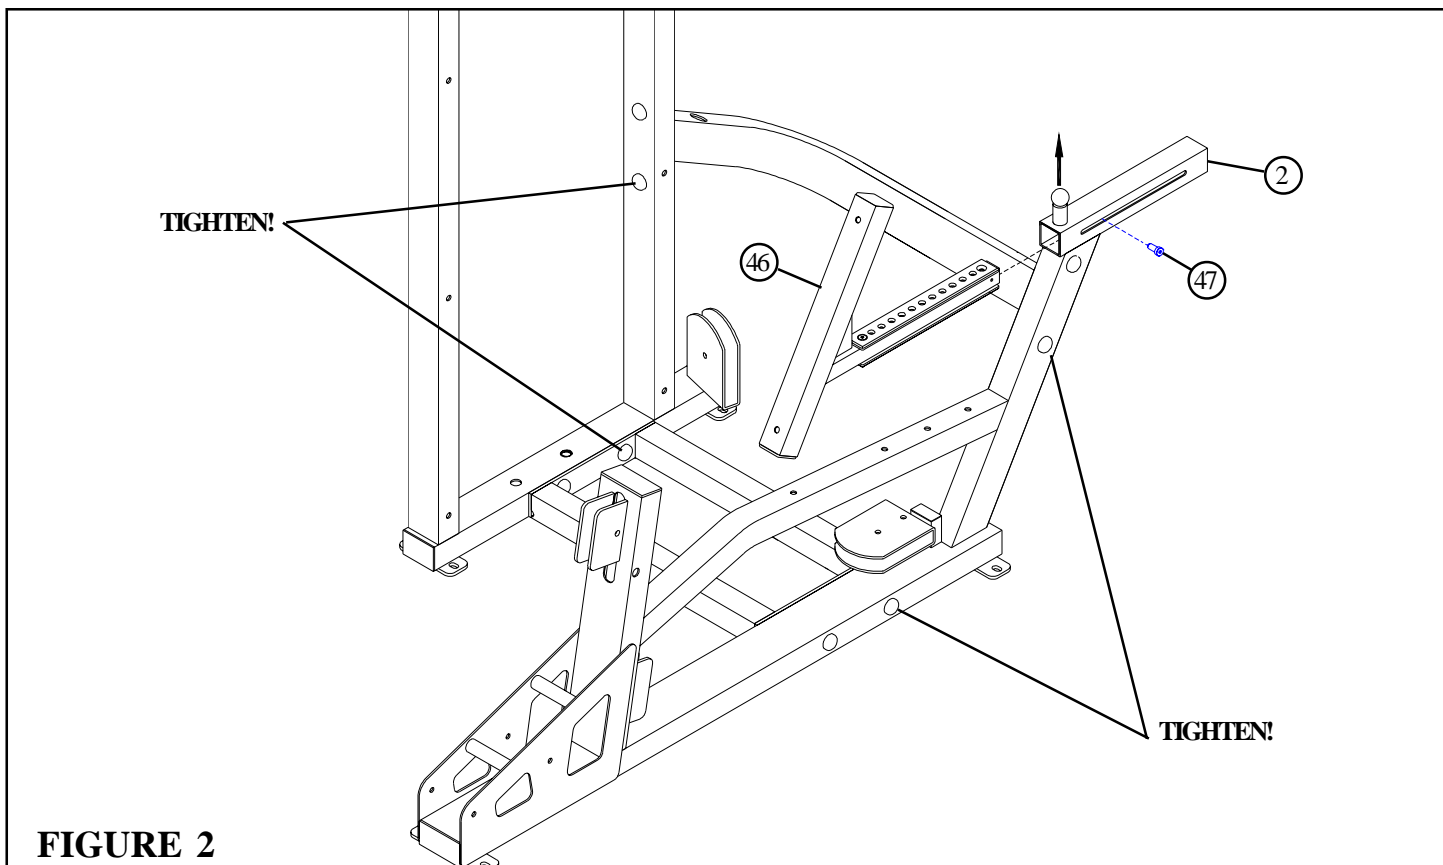

FIGURE 2
- Pull up the SPRING PIN on the LEG PRESS FRAME (2) and insert the BACK PAD ADJUST (46). Assemble one 5/16 X 1/2" SHOULDER BOLT (47) to the BACK PAD ADJUST (46) as shown in FIGURE 2.
- **Securely tighten all loose frame connections made to this point, then proceed to snap RH CAPS (38) over the RH WASHERS (36) on all tightened connections.**